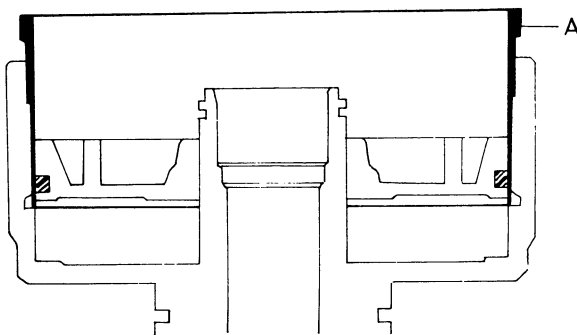

Fig. 4-100. Installing piston for rear clutch
12. Fit the sealing rings for the piston. Use fitting ring SVO 2534 and fit the piston in the clutch case, see Fig. 4-100.